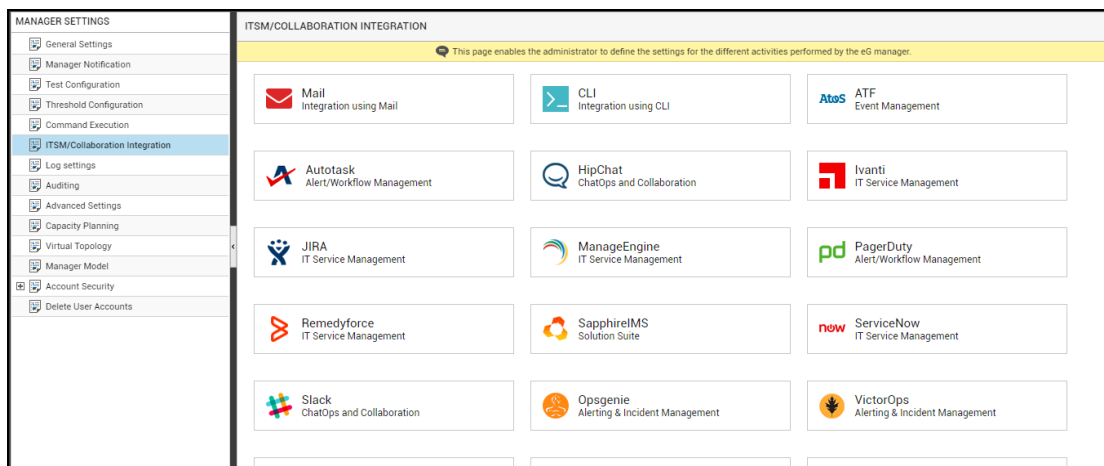

Figure 5.5: Viewing the ITSM/Collaboration tool options
3. Figure 5.5 will then appear. From the **MANAGER SETTINGS** tree in the left panel of Figure 5.5, select the **ITSM/Collaboration Integration** node. The third-party ITSM/Collaboration tools that eG Enterprise can integrate with will be listed in the right panel.
4. Now, click on the **Autotask** option in the right panel (see Figure 5.5). An **Autotask** section will now appear in the right panel (see Figure 5.6).